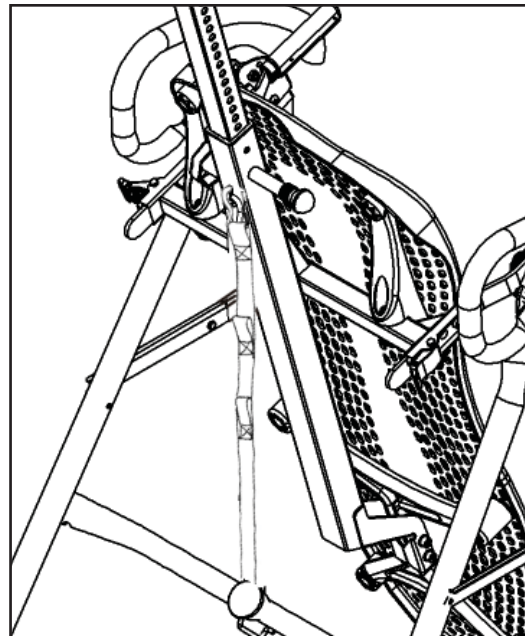

Figure 20 11
- Hook the clip at the end of the tether strap to the loop at the base of the table bed (Figure 20) to limit your degree of rotation.